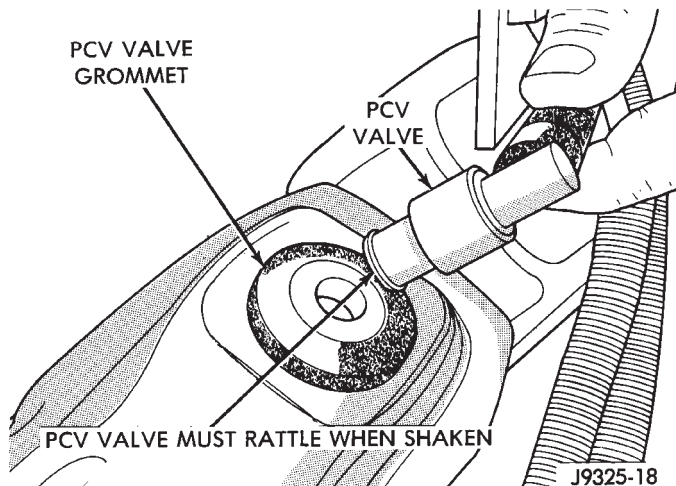

Fig. 18 Shake PCV Valve—Typical
(3) The paper should be drawn against the opening in the valve cover with noticeable force. This will be after allowing approximately one minute for crankcase pressure to reduce.
(4) Turn engine off and remove PCV valve from valve cover. The valve should rattle when shaken (Fig. 18).